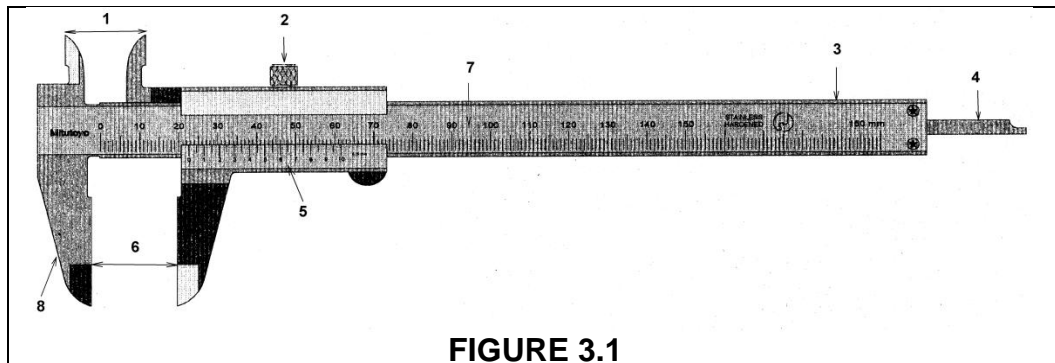

FIGURE 3.1
3.1.1 Identify the measuring instrument shown in FIGURE 3.1. (1)